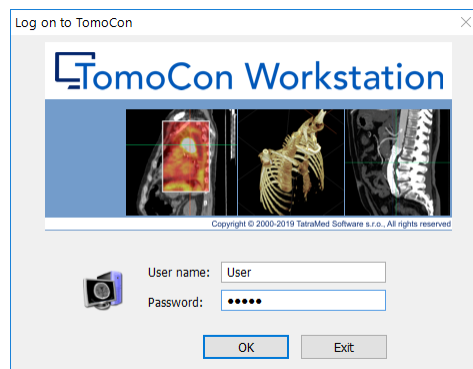

Figure 3 – Log On to TomoCon dialog
- Authorized access with user name and password; the user needs to enter the user name and password into the **Log On to TomoCon** dialog (see Figure 3) and then click **OK** button to start the application. It is not possible to work with the application without entering the correct name and password.